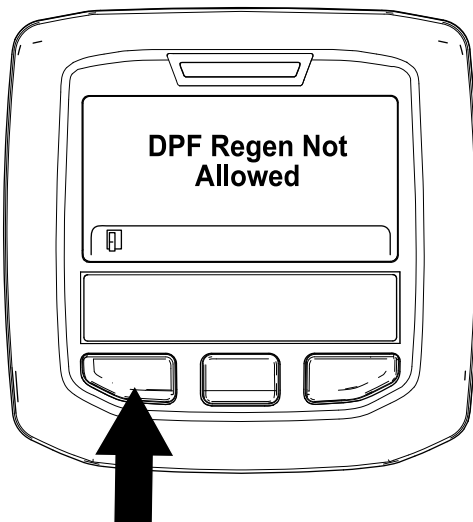

Figure 47
- If the regeneration process is not allowed by the engine computer, the "DPF Regen Not Allowed" message displays in the InfoCenter (Figure 47). Press the left button to exit to the home screen